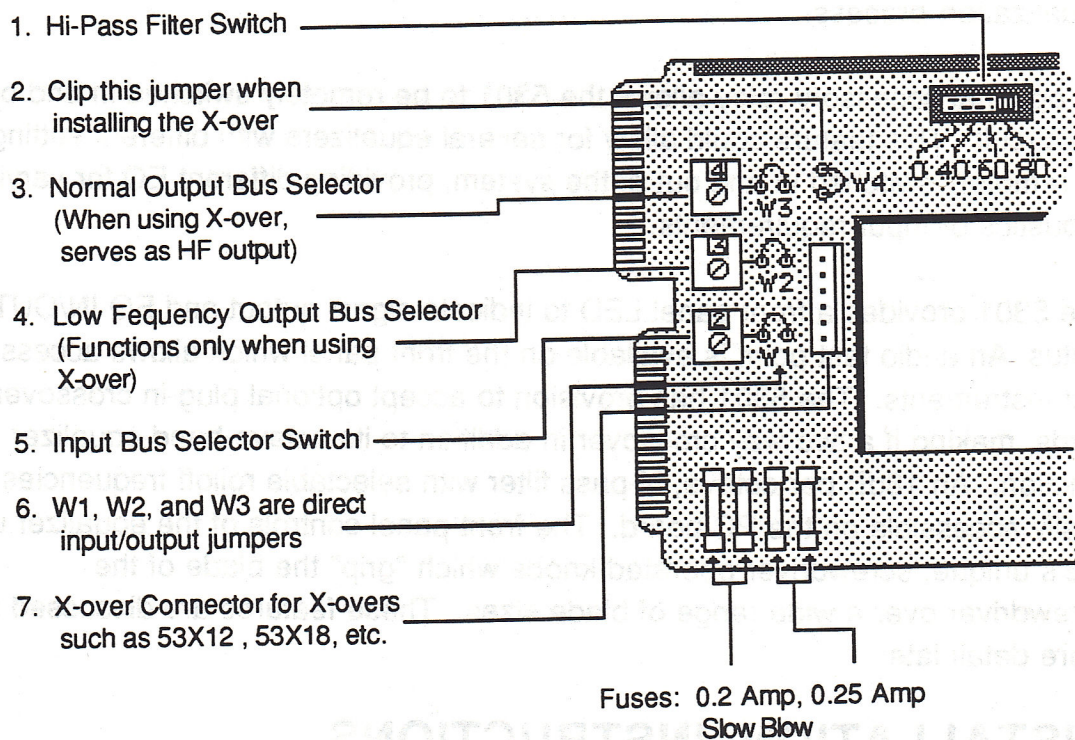

Figure 1
*(Note: Bracketed numbers in the text refer to item numbers found in Figure 1)*
The 5301 Octave-Band Equalizer may be converted for additional use as a 2-Way crossover. Ivie supplies, as optional accessories, a variety of small plug-in cards which attach to the gold plated connector pins (See Figure 1) on the 5301 PC board. These cards can be crossovers, horn equalization, or a combination of both on the same card. All these plug in cards and their descriptions are outlined on Ivie price lists under the Model 5000 Accessories section.
Once the proper resistors have been selected and soldered in, plug the crossover PC board into the pins on the PC board of the 5301. Make sure the crossover is oriented correctly so that the white plastic catch on the connector secures the crossover to the mating clip on the 5301. Clip Jumper W4 (see Figure 1) on the 5301 PC board to introduce the crossover into the circuit.
The input bus selection will remain the same, but now, both the output selectors must be used. (These are the square, rotary switches shown in Figure 1. *Notice the labeling on the PC board, next to the switches*). The top output bus selector is now the high frequency output, and the center bus selector is now the low frequency output. When the crossover is not plugged in to the 5301, the LF output is not connected to anything and is not active.
The 5301 is protected by four fuses, two 0.2 amp slow blow fuses, and two 0.25 amp slow blow fuses. Refer to Figure 1 for the proper placement of these fuses on the circuit board. Should it become necessary to replace these fuses, an exact duplicate must be used. ***Substituting higher rating fuses may cause extensive damage and will be cause to VOID THE WARRANTY.***
FUSES -----	8, Figure 1, p. 2